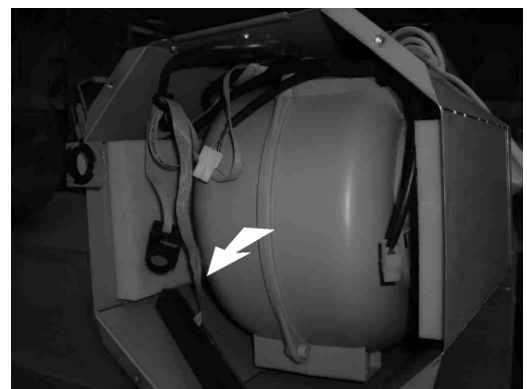

Fig. 13
10. Disconnect the contacts (Fig. 13) and remove the motor block.